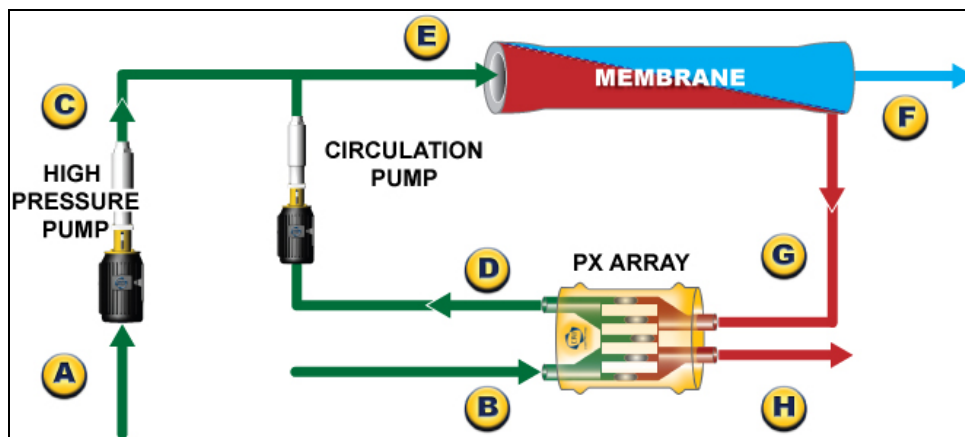

Figure 1 – Schematic Diagram of a Typical PX Device-Equipped RO Process
In a reverse osmosis (RO) system equipped with PX Pressure ExchangerTM (PXTM) energy recovery devices, illustrated in Figure 1, the membrane reject [G] is directed to the membrane feed [E]. A rotor, moving between the high-pressure and low low-pressure streams, removes the reject concentrate [G] and replaces it with feed water [B]. Pressure transfers from the high-pressure concentrate stream to a feed stream. The rotor spins freely, driven by the flow at a rotation rate proportional to the flow rate and lubricated by high-pressure process water. Unlimited capacity is achieved by arraying multiple PX devices in parallel.
The PX device seals the high-pressure portion of the RO process as illustrated in Figure 1. The flow rate of permeate [F] nearly equals the flow rate from the high-pressure pump [C]. The pressure within the high-pressure portion of the process [E-G-D] drives some flow – typically 1 to 2% of the high-pressure pump output – through the PX device to the low-pressure reject stream [H]. This small flow serves an important purpose in the mechanism of the PX device and must be taken into consideration by RO process designers and operators.